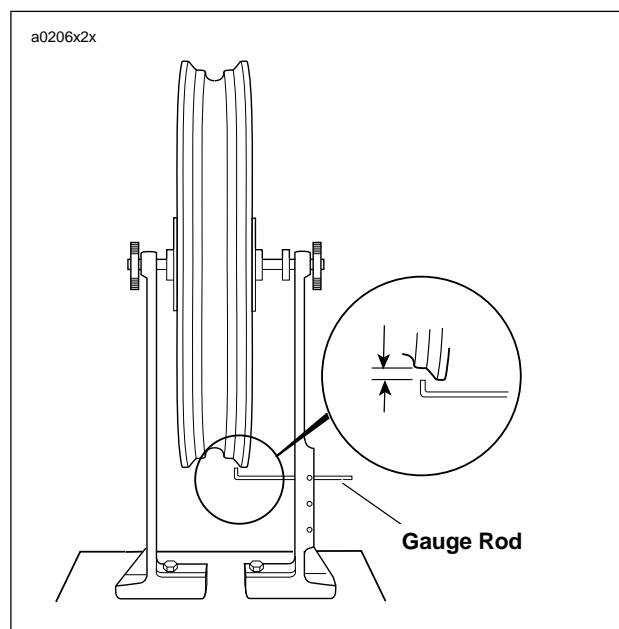

Figure 2-19. Checking Cast Rim Radial Runout using Wheel Truing and Balancing Stand (Part No. HD-99500-80)
1. See Figure 2-19. Install truing arbor in wheel hub and place wheel in WHEEL TRUING AND BALANCING STAND (Part No. HD-99500-80).